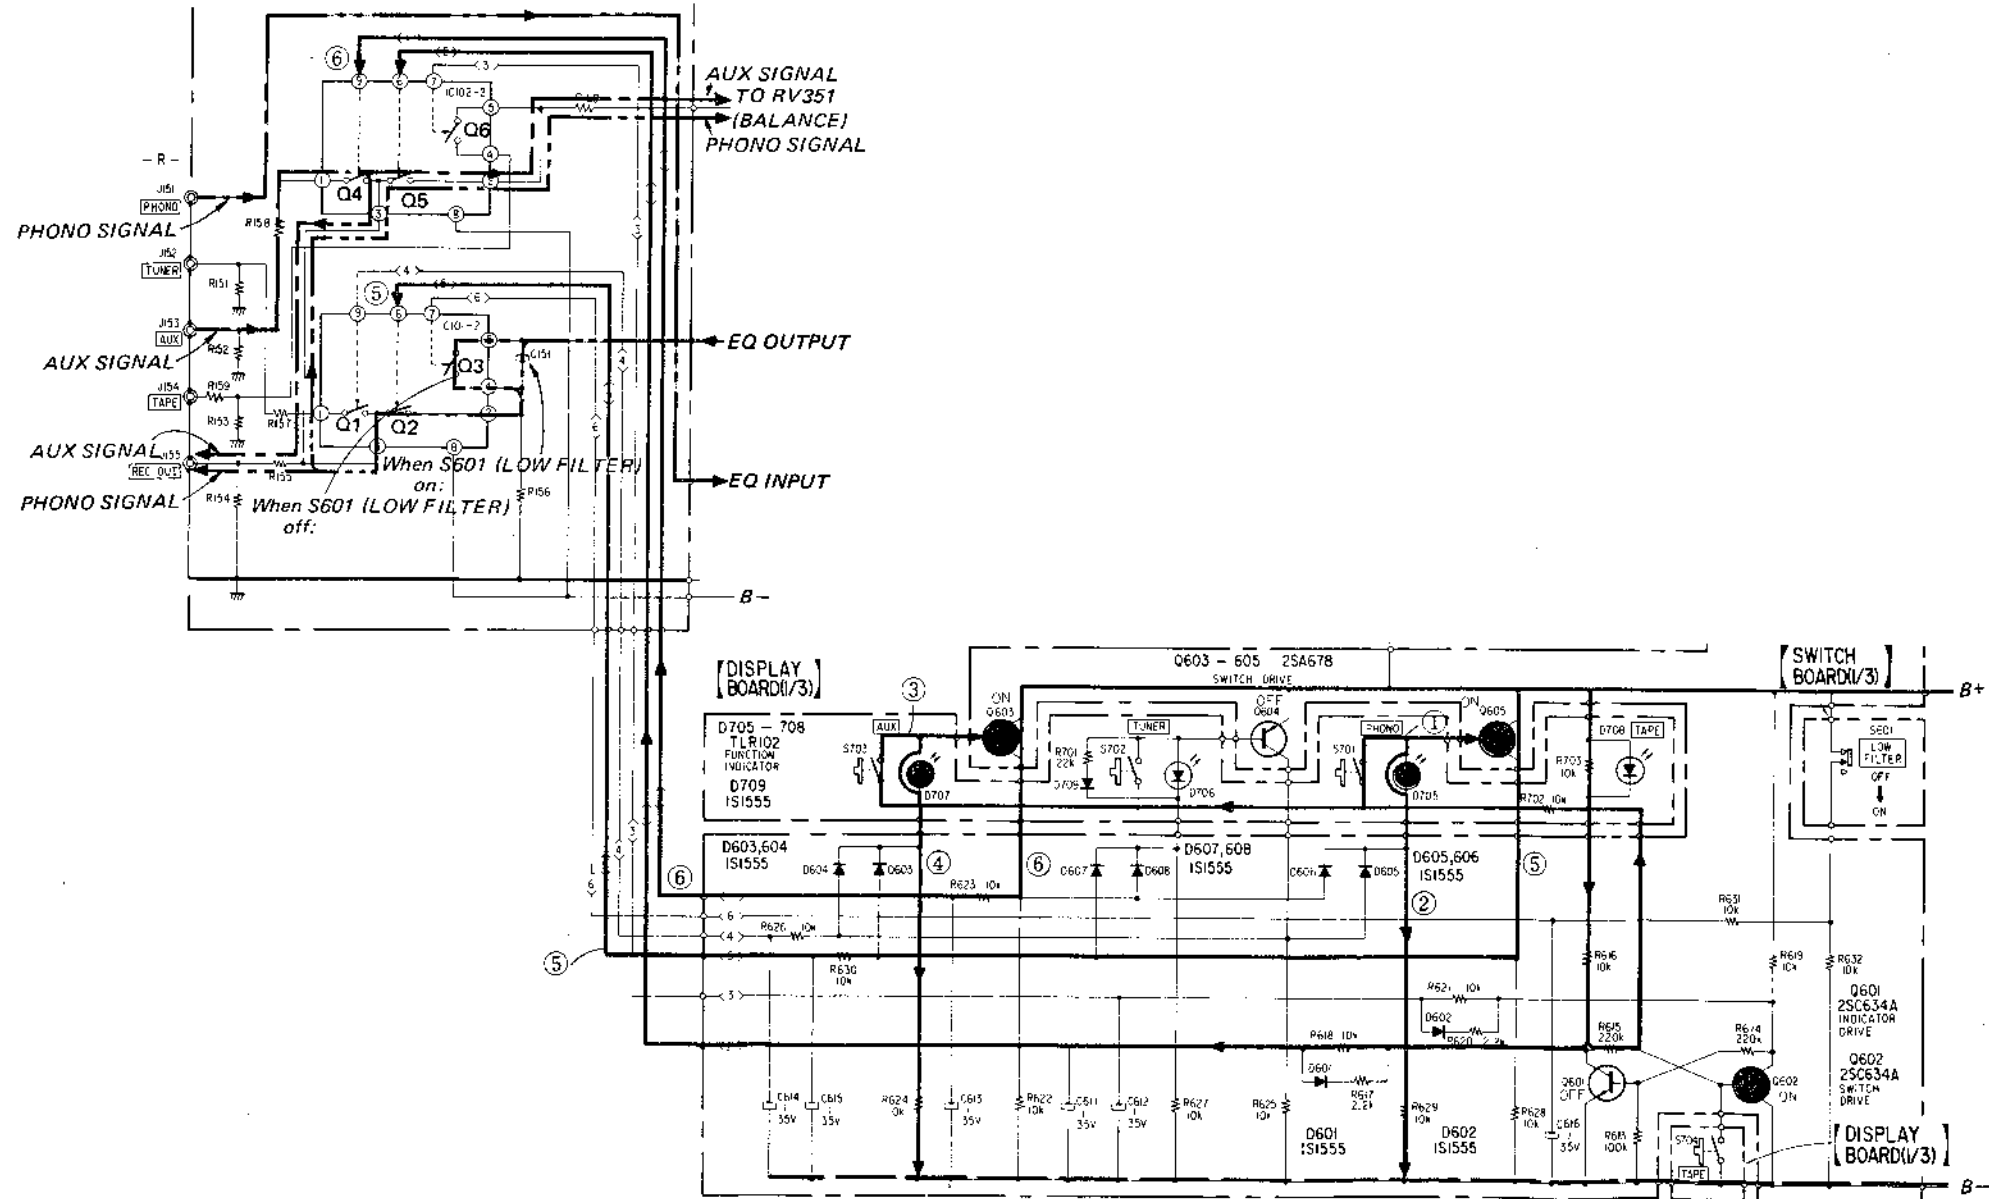

Fig. 4
2. When the PHONO button (S701) is pressed (see Fig. 4):
3. When the AUX button (S703) is pressed (see Fig. 4):